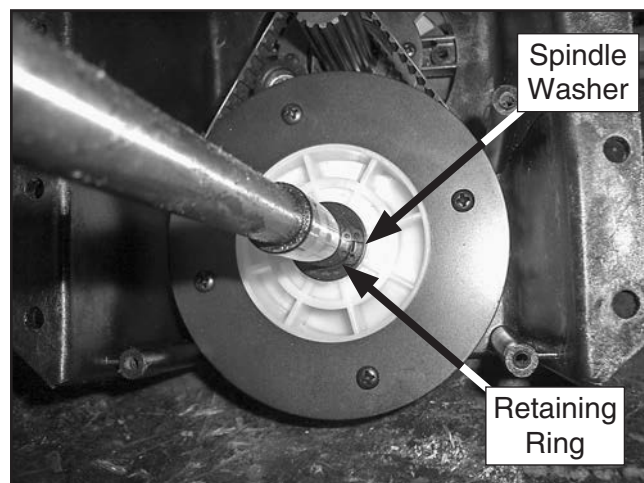

Figure 30. Spindle washer and retaining ring installed.
22. Install spindle washer (#51) and retaining ring (#50), as shown in **Figure 30**.